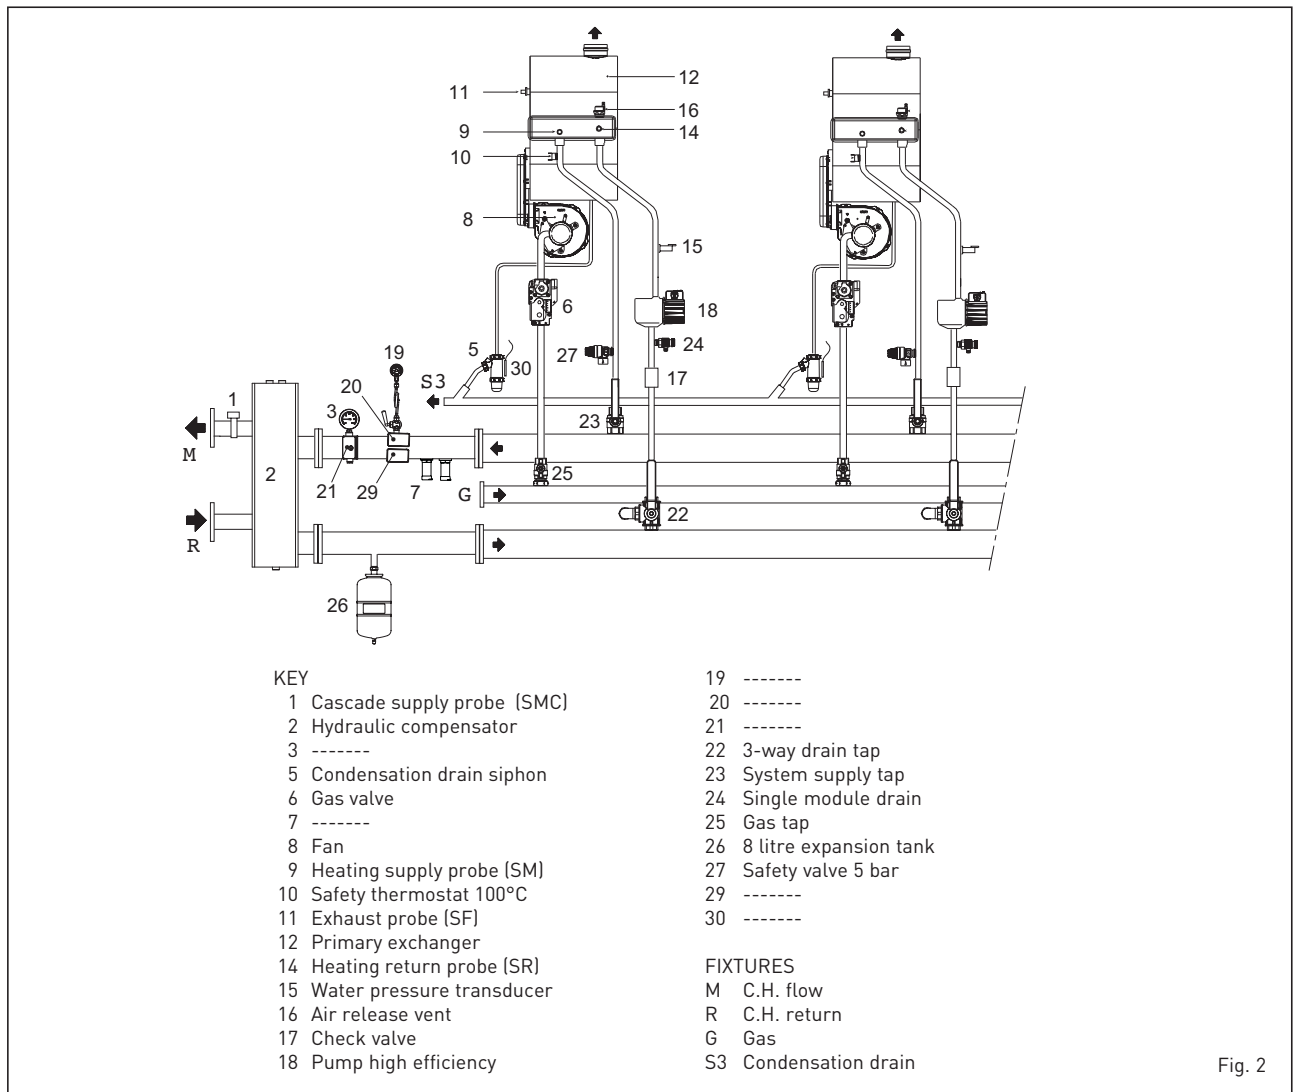

Fig. 2
1.4 HYDRAULIC CIRCUIT (fig. 2)